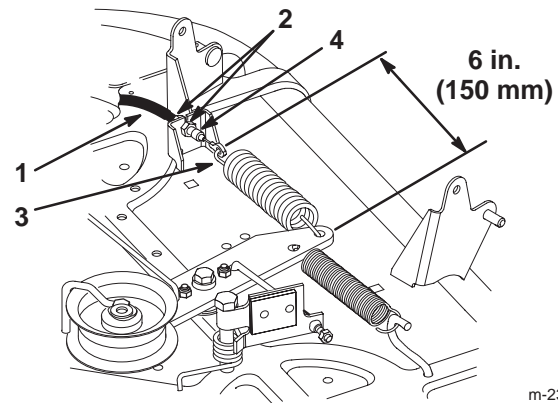

Figure 45
16. Engage the blade control (PTO) lever on the dash. Measure the distance between the hook ends of the idler spring (Fig. 45). Adjust the jam nuts until a 6 in. (150 mm) dimension is obtained (Fig. 45).